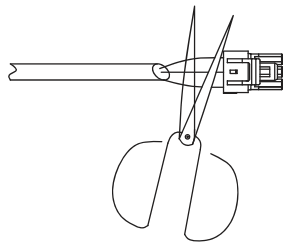

Fig. 16 — Shearing Outdoor Connector
1. Cut the connector on the outdoor unit side as shown in Fig. 16 below.